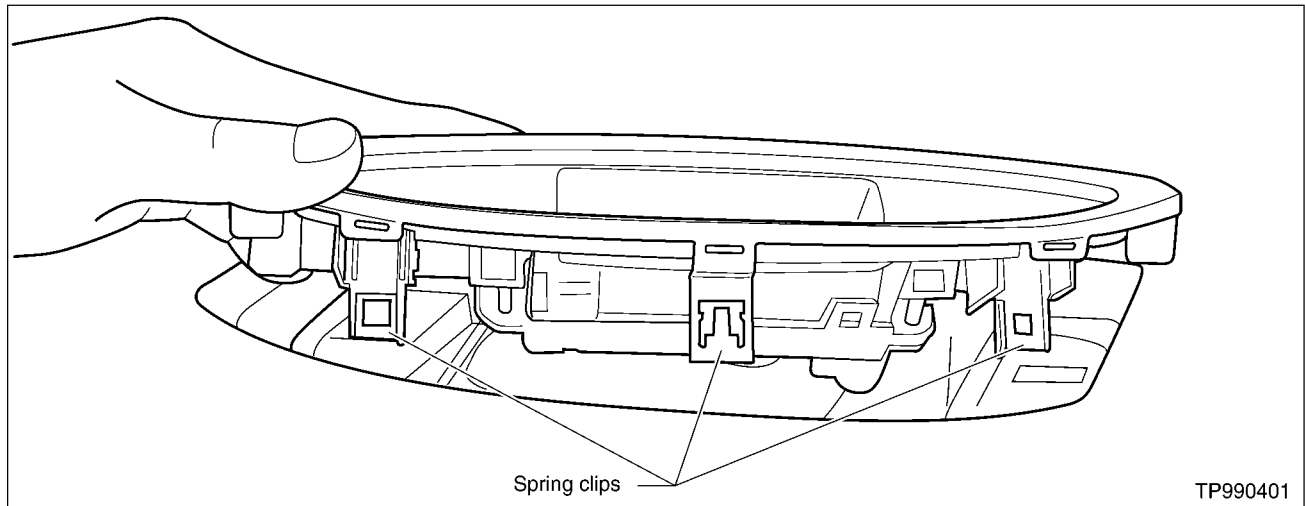

Figure 8
B. Remove the clock (see Figure 8).